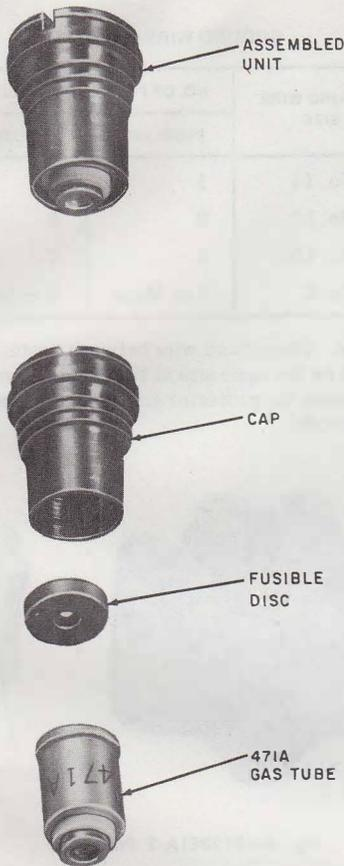

Fig. 9—♦11A1A Protector Unit♦
3.10 ♦The 11A1A protector unit (Fig. 9) incorporates the same 471A electron (gas) tube as the 11B1A protector unit (see Note following 3.05) to provide nominal 500-volt protection. The gas tube, along with a fusible disc, is mounted in a machined, threaded brass cap. The cap has a screwdriver slot and a recessed circle. The top of the cap is painted white to identify it as satisfactory for use on customer premises.